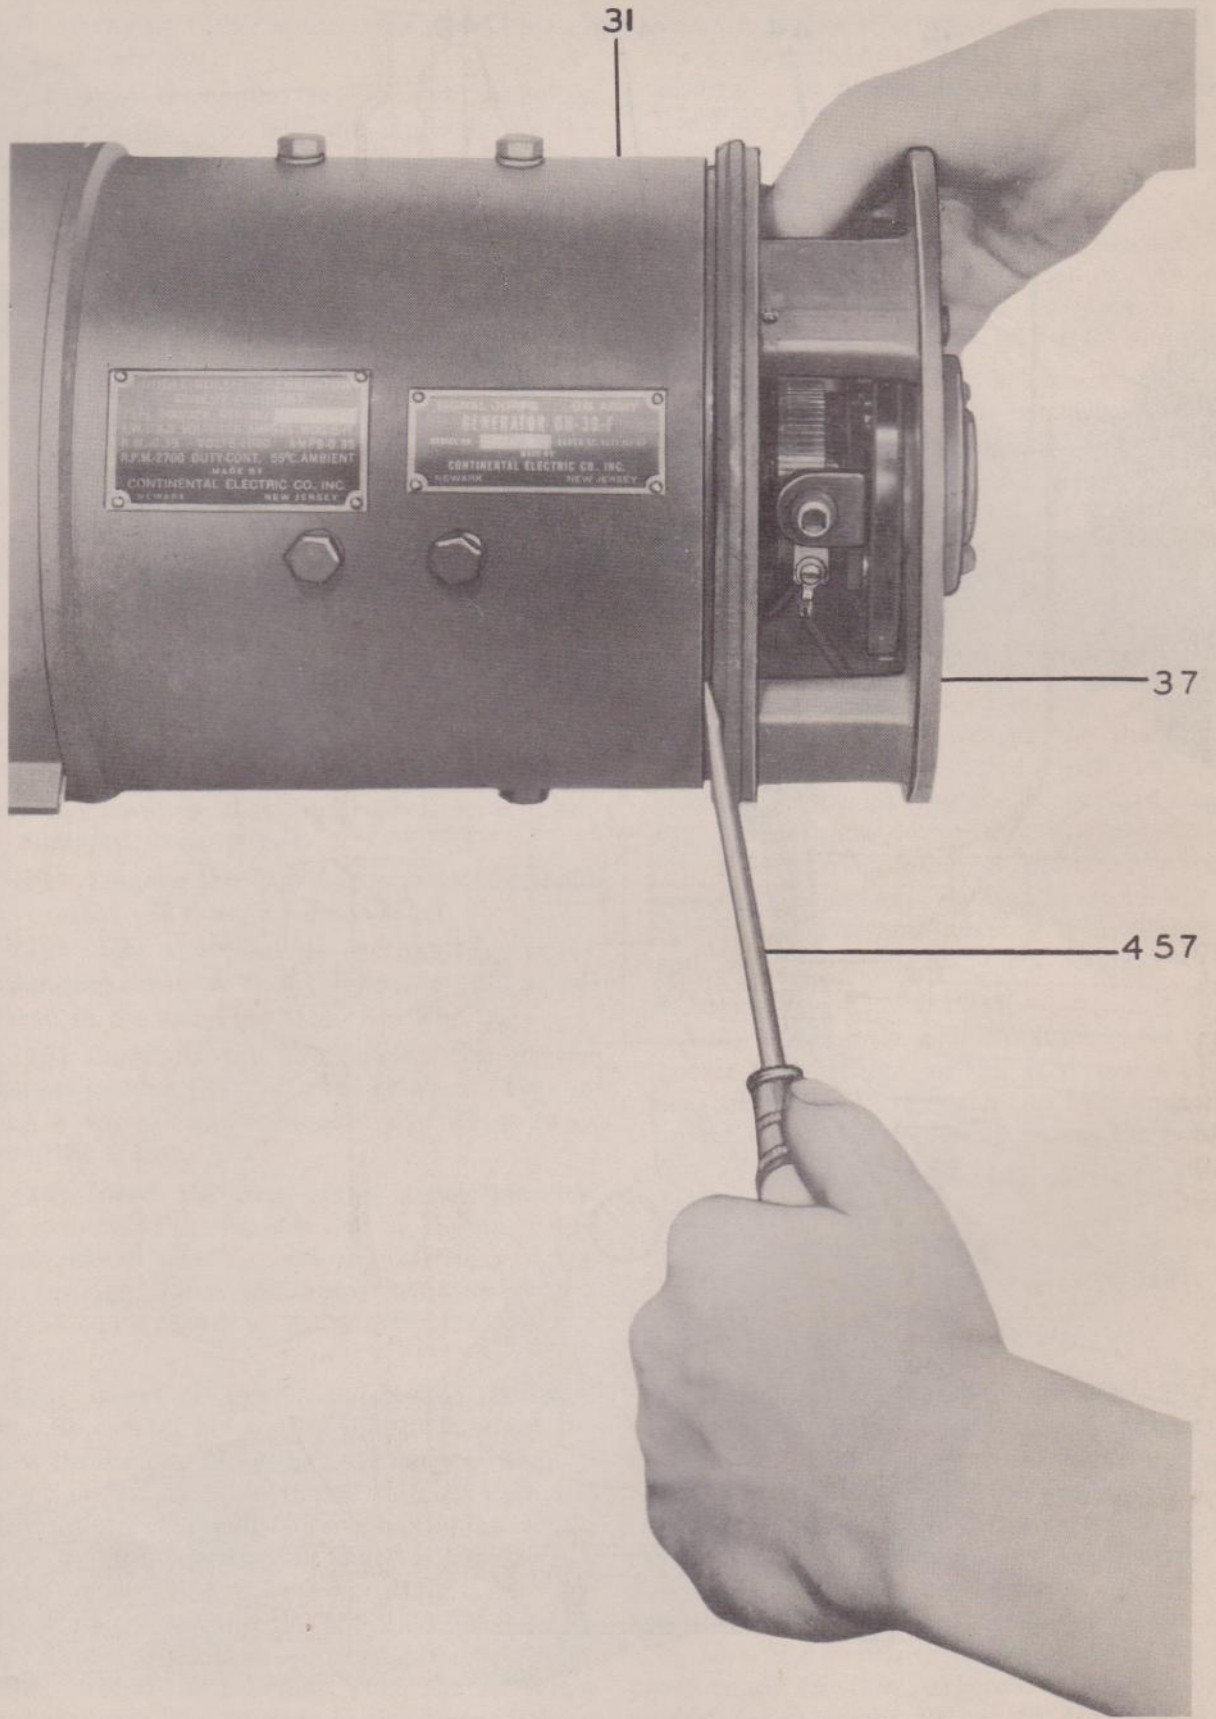
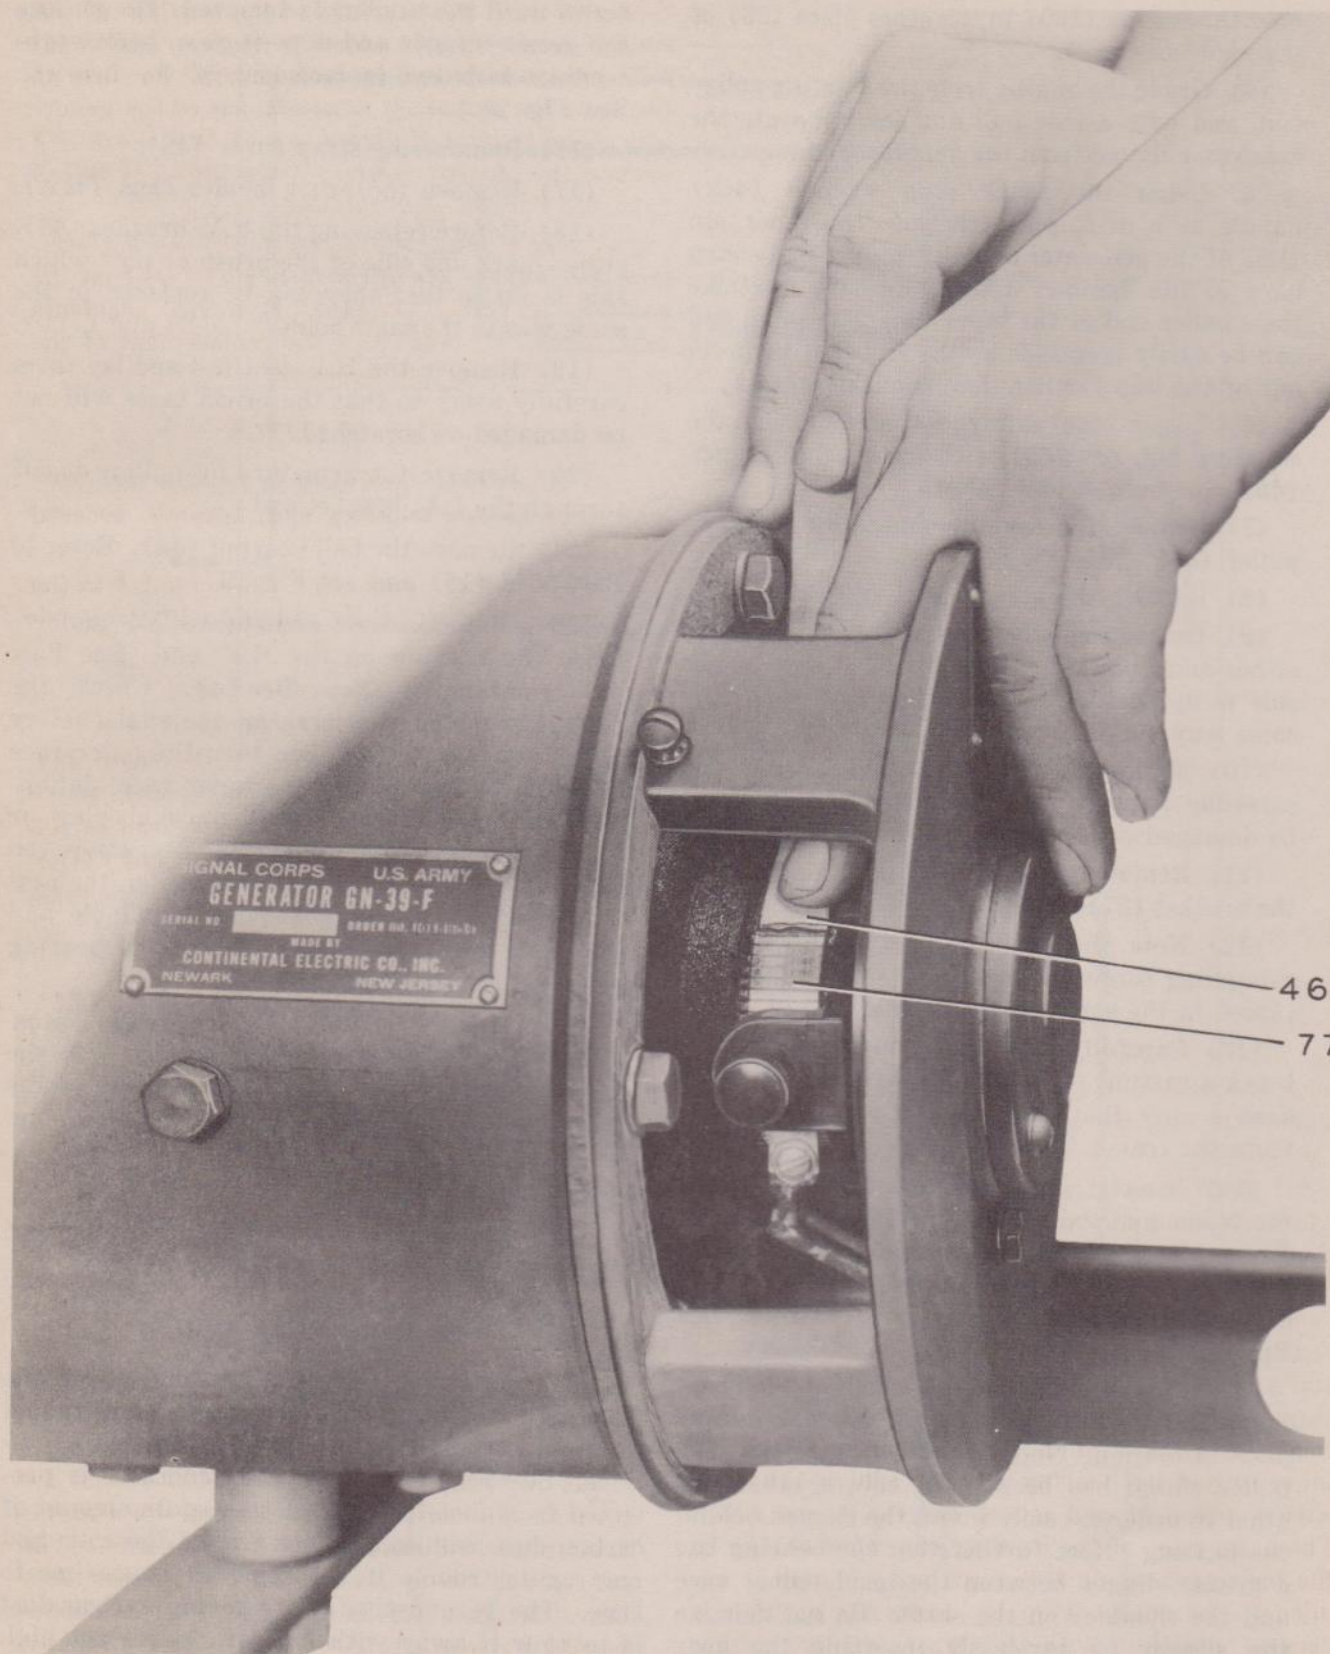
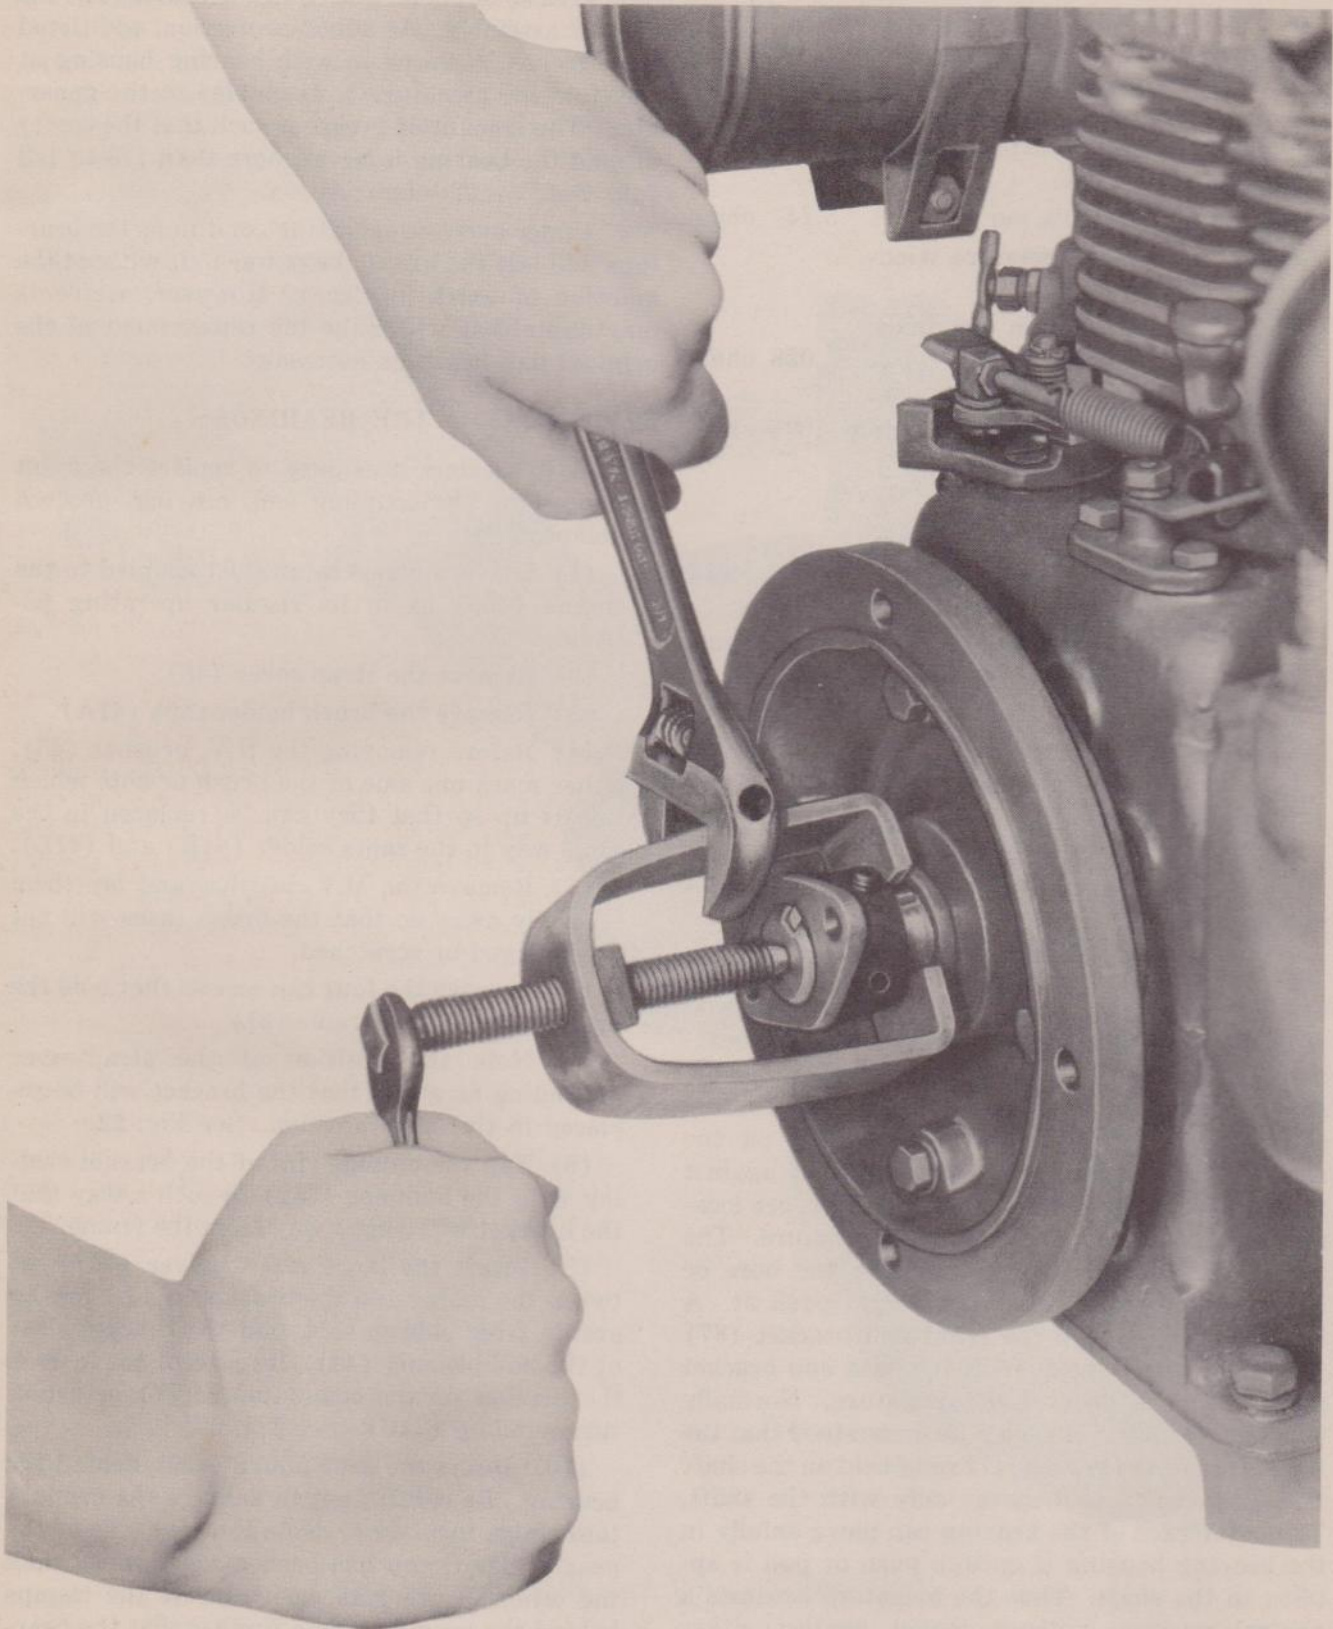

FIG. 20 REMOVING THE GENERATOR BEARING BRACKET
FIG. 22 SANDING THE COMMUTATOR
FIG. 23 REMOVING THE ENGINE COUPLING HUB
a. Grease and oil must be kept off the commutators (77) and (76) and brushes (43) and (57) at all times. If any lubricant is present, remove it by wiping with a cloth saturated with carbon-tetrachloride.
b. In time, minute grooves may appear on the commutators from the action of the brushes. This is a normal condition of wear. If it gets serious, the commutators may be sanded with grade 00 or finer sandpaper (461) while the Generator GN-39-F (30) is running. Canvas or crocus cloth (460) may be used for polishing. See Fig. 22.
d. After a long period of operation the low voltage winding may fail to build up to full voltage. This condition is usually the result of the formation of a film on the commutator bars and is a natural characteristic produced by the low voltage brushes (57). The remedy is to sand the commutator (76) lightly with No. 00, or finer, sandpaper (461) or clean it with a cloth dampened with naphtha or carbon-tetrachloride. See Fig. 22.
a. Low output voltage and poor regulation usually indicate an internal short circuit in the armature (74). Severe sparking at one or both of the commutators (76) and (77) is a sign of an open circuit.
b. If sparking occurs, the brushes (43) and (57) should be examined to make sure they are properly fitted and are making good contact with the commutators.
c. If no fault can be found with the brushes, the armature should be "read out." This consists of measuring the resistance of the armature between the H.V. brushes (43) or the L.V. brushes (57) and also from bar to bar. In checking this resistance value refer to SERVICE DATA, Par. 37.
d. If it becomes necessary to replace the armature (74), proceed as follows: See Figs. 20 and 21.
(1) Take out the four bolts that hold the floating center (67) of the coupling (65) to the two hubs (66) and (66A) and remove it. Place the four bolts with nuts in the floating center so that they will not be misplaced.
(2) Remove the four bolts that hold the union ring bracket (51) to the engine crankcase flange (112).
(3) Remove the two "U" bolts (24) that hold the engine (100) to the cross piece (26) of the skid base (20).
(4) Grasp the engine from the starting pulley end, and with a side pull and jar, separate the crankcase flange from the generator union ring.
(5) Using the spark plug wrench (462) handle as a drift pin, drive out the taper pin (68) of the generator coupling hub with a sharp blow of the hammer (452). Be sure to strike the smaller end of the taper pin. The small end can be easily identified as the end that projects out of the hub farther than the larger end.
(6) Loosen the safety set screw over the coupling hub key (69) with the special wrench (465) in the tool bag (450).
(7) Remove the coupling hub with the gear puller (459). See Fig. 23.
(8) Remove the strap cover (60).
(9) Before removing the L.V. brushes (57), either mark one side of the brush or note which side is up so that they can be replaced in the same way.
(10) Remove the L.V. brushes and lay them carefully away so that the brush faces will not be damaged or scratched.
(11) Remove the four cap screws that hold the bracket (37) to the frame (31).
(12) Note the position of the strap cover grounding screw so that the bracket will be replaced in the same position. See Fig. 22.
(13) Carefully tap the outside rim of the bracket casting (37) with the hammer (452) in such a way that the bracket will come away from the frame.
(14) Insert the large screw driver between the frame and the bracket and by prying evenly from side to side, pull the bracket clear of the ball bearing. Be careful not to drop the bracket on the commutator or armature winding. See Fig. 20.
(15) Insert the gear puller behind the bearing. Be careful not to damage the commutator mica insulation. Note that one side of the gear puller clamp has been made thinner than the other in order to easily insert the clamps behind the bearing. Note further that the bearing has a grease slinger between the inside inner race and the shoulder on the shaft. Do not damage the slinger by carelessly inserting the gear puller behind the bearing. Turn the set screw by hand until the point is in the center-hole of the armature shaft. Use an open end wrench on the head of the set screw and while holding
- (1) Leave the generator (30) coupled to the engine (100) as in its regular operating position.
- (2) Remove the strap cover (48).
- (3) Remove the brush holder caps (41A).
- (4) Before removing the H.V. brushes (43), either mark one side of the brush or note which side is up so that they can be replaced in the same way in the same holder (41R) and (41L).
- (5) Remove the H.V. brushes and lay them carefully away so that the brush faces will not be damaged or scratched.
- (6) Remove the four cap screws that hold the bracket (37) to the frame (31).
- (7) Note the position of the strap-cover grounding screw so that the bracket will be replaced in the same position. See Fig. 22.
- (8) Tap the outside rim of the bracket casting with the hammer (452) in such a way that the bracket will come away from the frame.